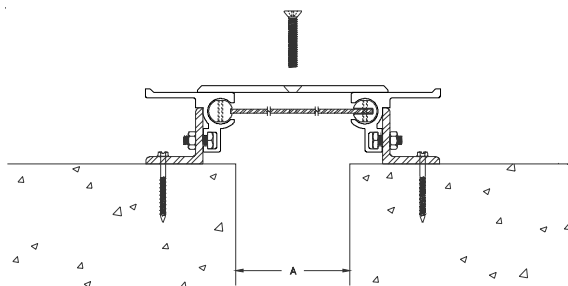

Figure 6
**STEP 10.** Place the center plate into the installed position over the joint (see Figure 6). Ensure that it is level and properly aligned. Insert a centering bar screw through each anchor hole in the cover plate and into a centering bar. Ensure that the cover plate is properly centered over the void.